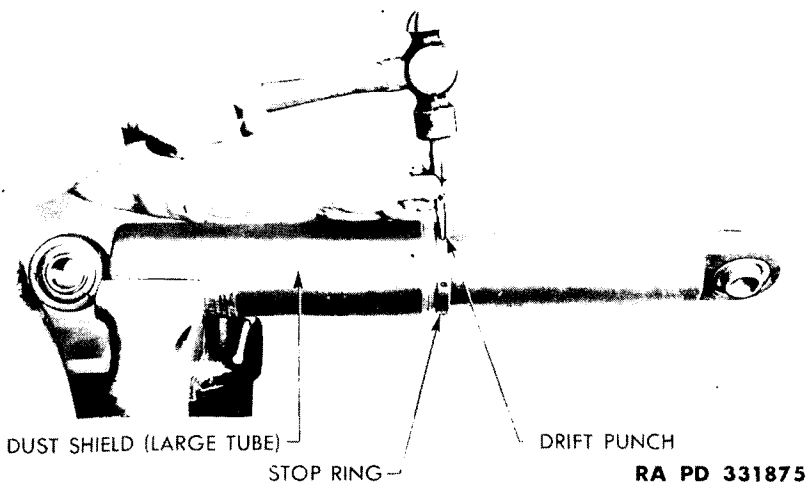
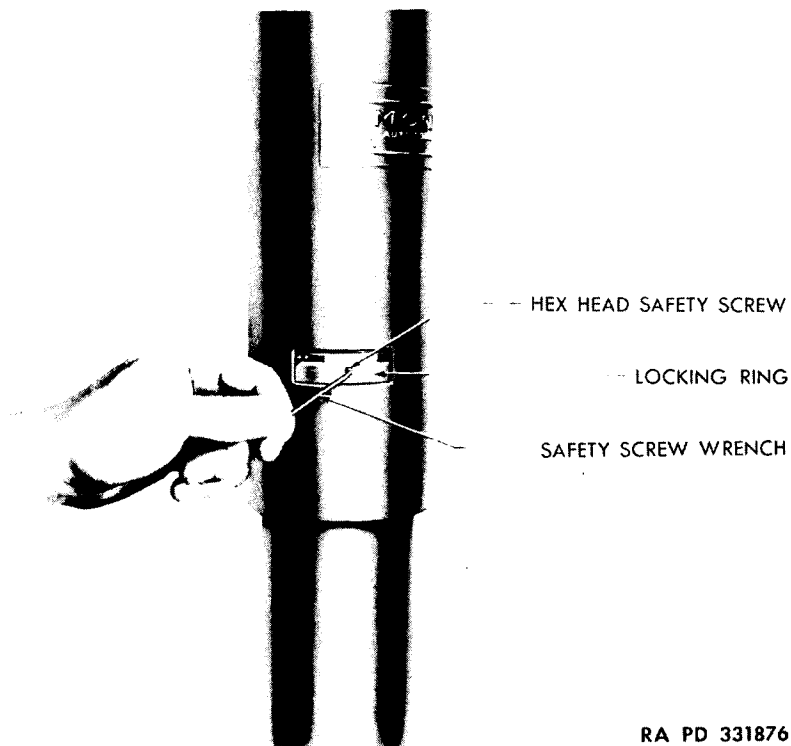
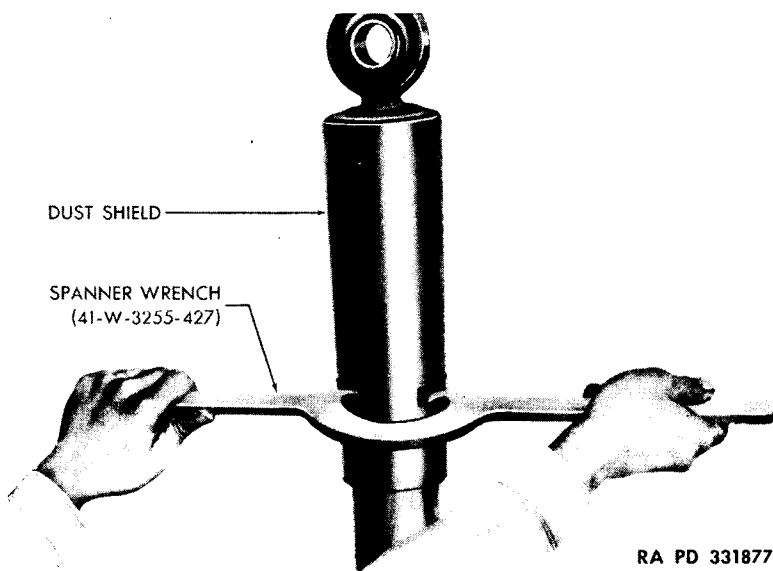

Figure 25. Removing shock absorber stop ring.
Figure 26. Removing hex head safety screw from locking ring.
Figure 27. Removing locking ring in reserve tube.
(1) *Remove piston and cylinder assembly.* Clean the shock absorber thoroughly before disassembly. Bend the metal tabs away from the windows in the dirt shield, and extend the shock absorber to its fullest extent. If tabs break off, they should be retained, and tack welded in place at time of reassembly. Lay the shock absorber horizontally in a vise, clamping on the outside of the large tube. Unscrew the stop ring, which is engaged in the end of the large tube (fig. 25), using either spanner wrench or drift to loosen. Release the shock absorber from the vise and remount, standing it vertically, and clamping it on the lower forging. Remove the hex head safety screw that holds the locking ring in the reserve tube (fig. 26), then unscrew the locking ring with spanner wrench (41-W-3255-427) (fig. 27). Raise the locking ring, the gasket support washer, and the reserve tube
seal assembly. Fit the gasket support washer against the gasket. Start the threads of the locking ring by hand. Insert the spanner wrench (41-W-3255-427) in the dust shield windows and tighten the locking ring securely (fig. 27). Install and tighten the safety hex set screw. Bend the metal tabs back of the dust shield window, making sure there is no interference with the tube. If the metal tabs were broken off at time of disassembly, tack weld in position. Reassemble the stop ring in the shield. Tighten securely. Prime the shock absorber by reciprocating it two or three strokes.